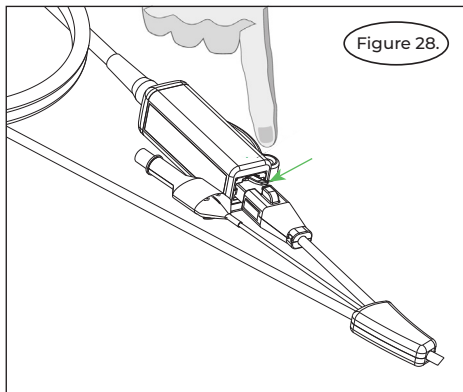

Figure 28. Disconnect iEPC from interface cable.
41) Disconnect the iEPC from the interface cable by pressing the clip on the RJ50 connector (Figure 28).